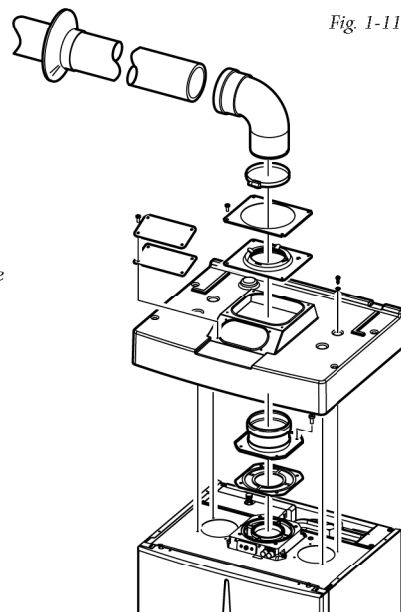

Fig. 1-11
- **Kit assembly (Fig. 1-11):** Remove the two plugs and the gaskets present from the two lateral holes with respect to the central one. Now cover the right intake hole using the relevant plate, fixing it onto the left side using the two previously-removed screws. Install the Ø80 outlet flange on the central hole of the boiler, taking care to insert the gasket supplied with the kit and tighten by means of the screws provided. Install the upper cover, fixing it using the 4 screws present in the kit, positioning the relevant gaskets. Engage the 90° Ø80 bend with the male side (smooth) in the female side (with lip seal) of the Ø80 flange until it stops. Introduce the gasket, making it run along the bend. Fix it using the sheet steel plate and tighten by means of the straps present in the kit, making sure to block the 4 gasket flaps. Fit the male side (smooth) of the exhaust terminal into the the female side of the bend 90° Ø80, making sure that the relevant wall sealing plate is already fitted; this will ensure the hold and joining of the elements making up the kit.